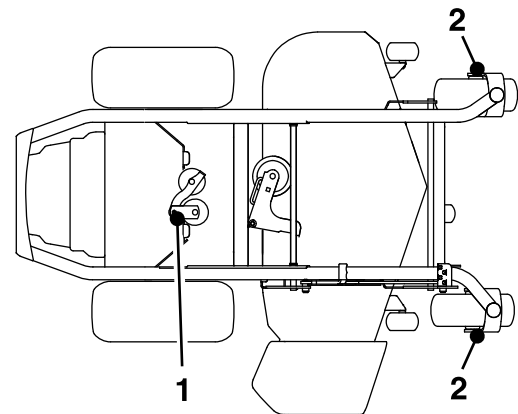

Figure 38
4. Grease the pump idler-pulley pivot with 1 or 2 pumps of grease (Figure 38).
5. Grease the front caster axles (Figure 38).